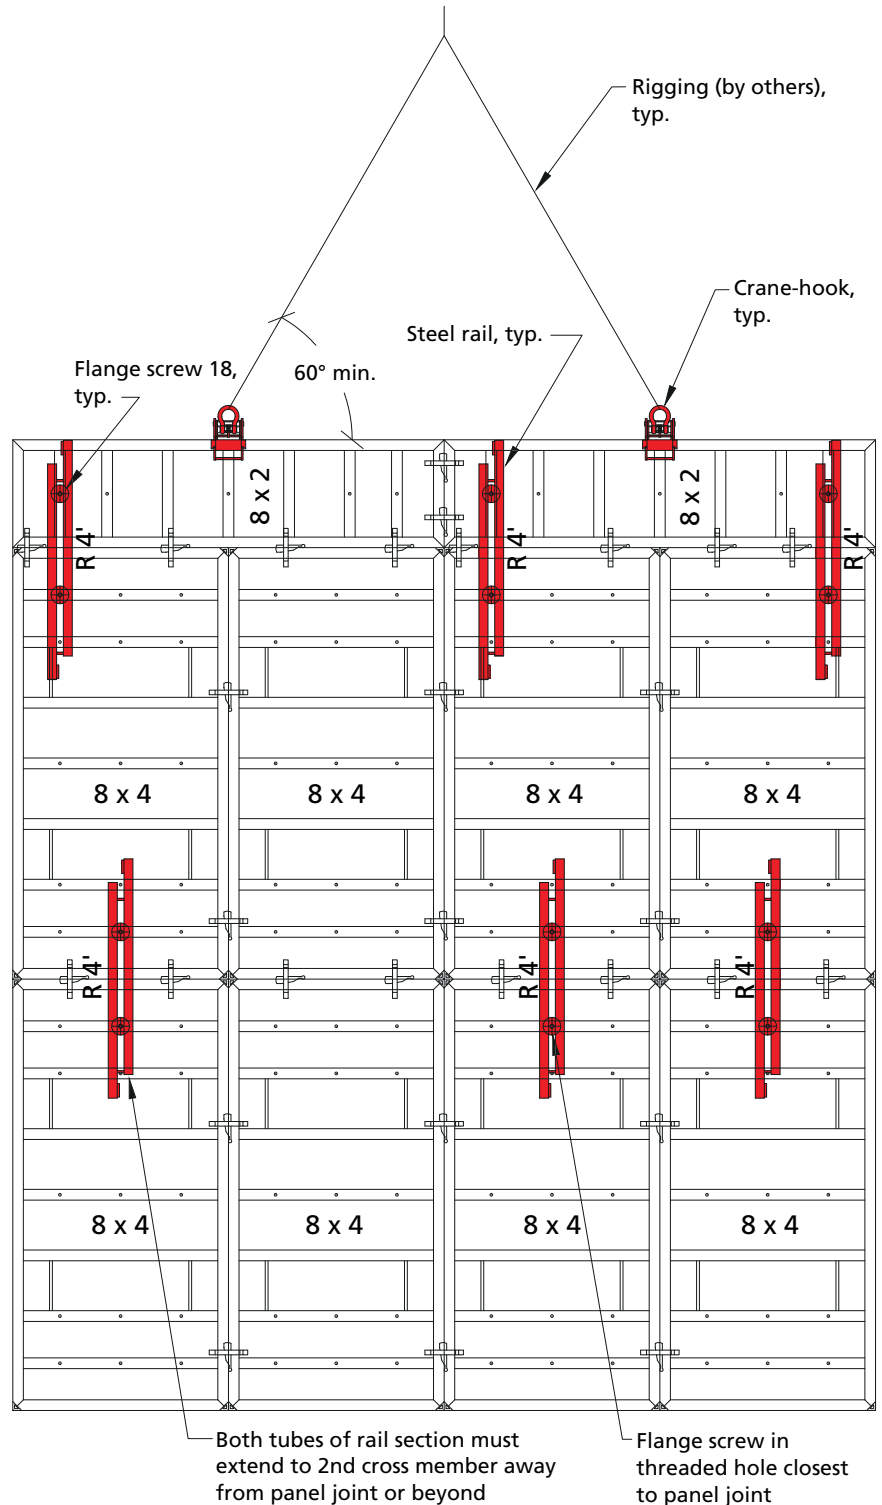
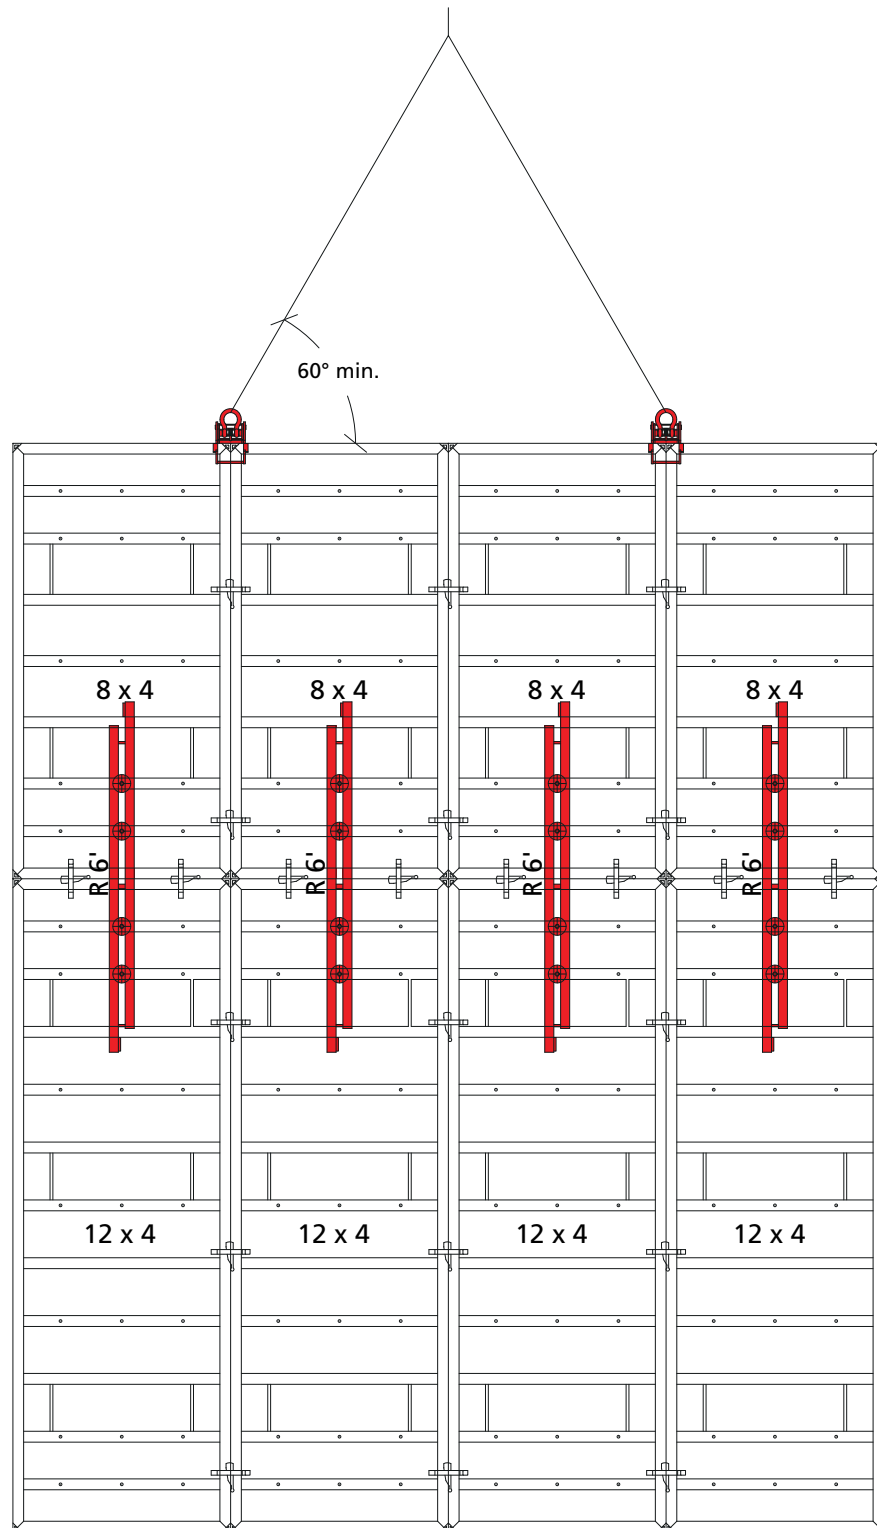

Fig. 48.1 Gang form with horizontal top panels
Fig. 49.1 Typical gang form
Each crane hook must be attached at a panel joint (Fig. 49.1) or above a cross member when the top panels are horizontal (Fig. 48.1). The number and location of crane hooks and the rigging arrangement must be established by the user so that no individual component is overloaded. Spreader beams with load equalizers are recommended for all but simple two-point lifts.
**2.** Both tubes of rail section must extend to 2nd cross member away from panel joint or beyond (Fig. 48.1). Flange screws must be installed in threaded holes closest to panel joint.
**3.** 4' long rails with (1) flange screw on each side of the panel joint may be used for gangs up to 18' high when connecting 12' and 8' high panels (Fig. 48.1). Longer rails are required when connecting 4' high and 2' high panels.
**4.** For gangs > 18' high, 6' long rails with (2) flange screws on each side of the panel joint must be used (Fig. 49.1), except at top horizontal panels ≤ 2'-0" wide.